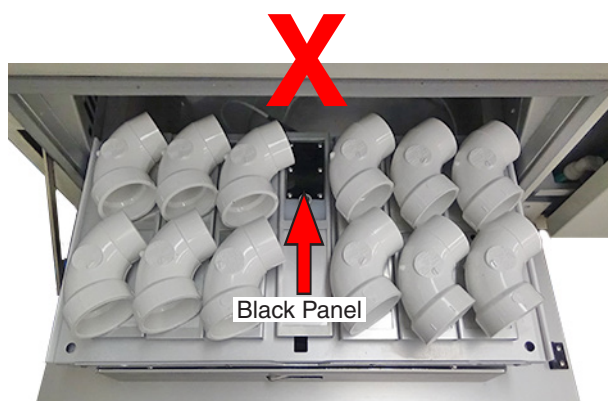

Figure 12.5c: Do not cover or shade black panel.
- Covering the black panel with specimens or shadow lowers its temperature and can cause the heater to stay on too long, overheating the specimens (Figure 12.5c).